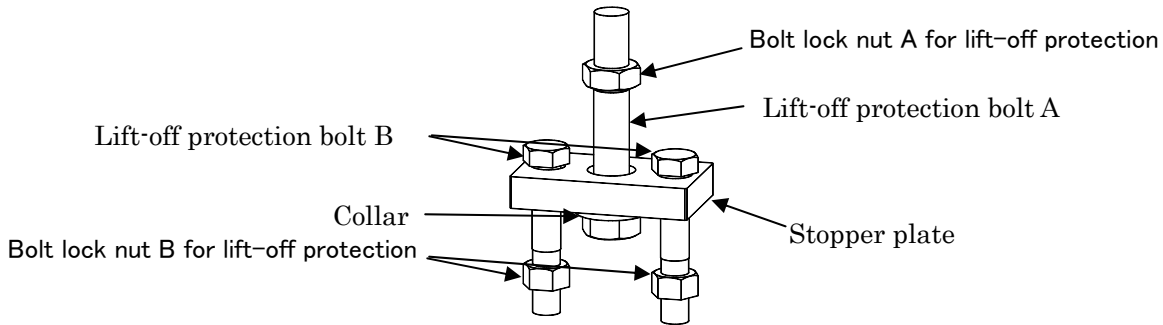

Fig. 5
① Install the Lift-off protection metals attached to the same condition as shown in Fig. 5.